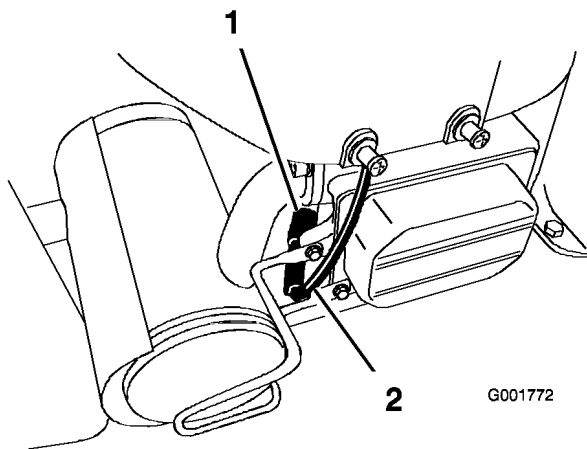

Figure 28
- Pull the wire off of the spark plug (Figure 28). Clean around the spark plug to prevent dirt from falling into the engine and potentially causing damage.
3. Push the wire onto the spark plug (Figure 28).